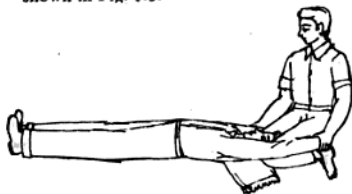

Fig. 1.3 Inspiration
**Second Method** This method is adopted only when a victim's body has some burns on the chest or anywhere on the front side of the body. The patient must be laid on the floor as shown in Fig. 1.3 with a pillow or rolled coat under his shoulder. Then the following procedure should be followed.
1. The operator should kneel in the position shown in Fig. 1.3.